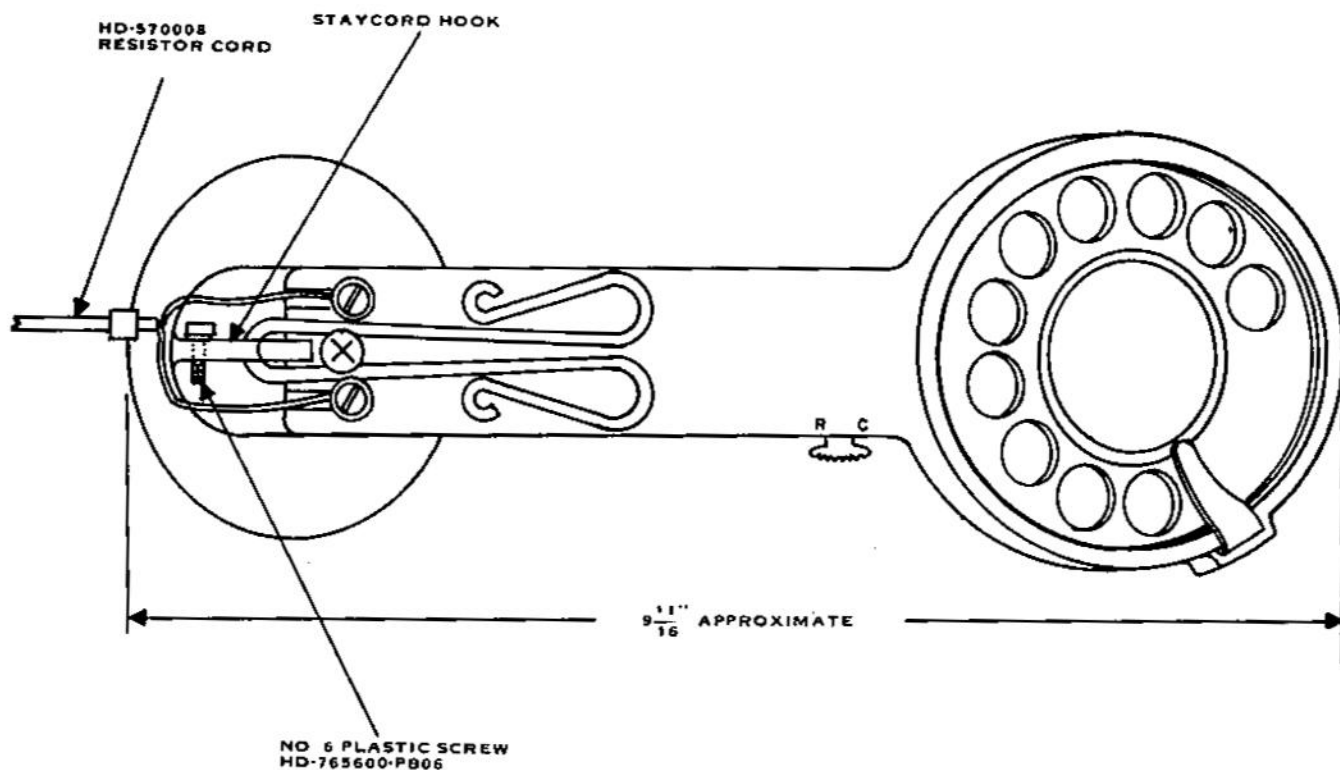

Figure 3. Modification for Resistor Plug Addition.
- Drill a 0.116-inch pilot hole for a No. 6 plastite screw (HD-765600-PB06). (Refer to Figure 3.)
| HD-540019-B  | A 5-foot-long, two-conductor cord, one end terminated with a four-contact plug (Figure 3) for insertion into switch test jacks, the other end terminated with a jack to mate with the plug of the HD-570008-A cord. A pushbutton on the four-contact plug is used to short two of the contacts on the switch being tested.   |
| HD-540016-B  | A 5-foot-long, two-conductor cord, one end terminated with a two-contact plug (Figure 3) for insertion into switch jacks, the other end terminated with a jack to mate with the plug of the HD-570008-A cord.  |
| HD-540045-A  | A 5-foot-long, two-conductor cord, one end terminated with a switchboard type plug, the other end terminated with a jack (Figure 3) to mate with the plug of the HD-570008-A cord. This cord is used for test of central office and PBX equipment accessed by test or patch jacks.   |
| HD-540062-A  | A 4-foot 4-inch-long, two-conductor cord (Figure 3), one end terminated with banana plugs, the other end terminated with a jack to mate with the plug of the HD-570008-A cord.   |